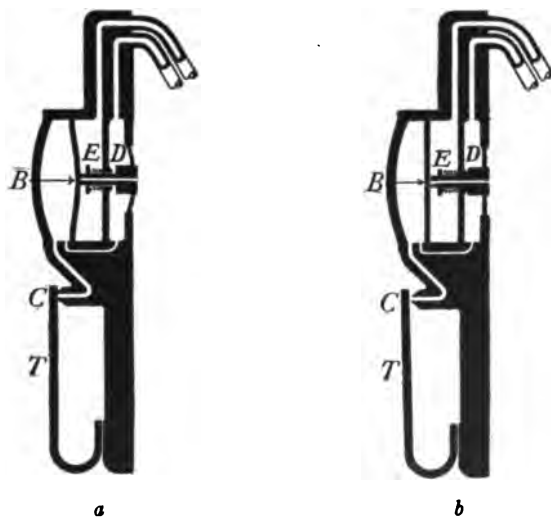

FIG. 148—A thermostat. (Johnson System.)
**165. The Thermostat.**—One of the many examples of the expansion of metals is shown in one form of the thermostat (Fig. 148) in which two pieces of different metals
The thermostatic strip  $T$  moving inward and outward, as affected by the room temperature, varies the amount of air which can escape through the small port  $C$ . When the port  $C$  is completely closed (Fig. 148*a*) the full air pressure collects on the diaphragm  $B$  which forces down the main valve, letting the compressed air from the main pass through the chamber  $D$  into chamber  $E$  as the valve is forced off its seat. The air from chamber  $E$  then passes into the branch to operate the damper.
When port  $C$  is fully open (Fig. 148*b*) the air pressure on diaphragm  $B$  is relieved, the back pressure in  $E$  lifts up the diaphragm and the air from the branch escapes out through the hollow stem of the main valve, operating the damper in the opposite direction from that when  $C$  is closed.